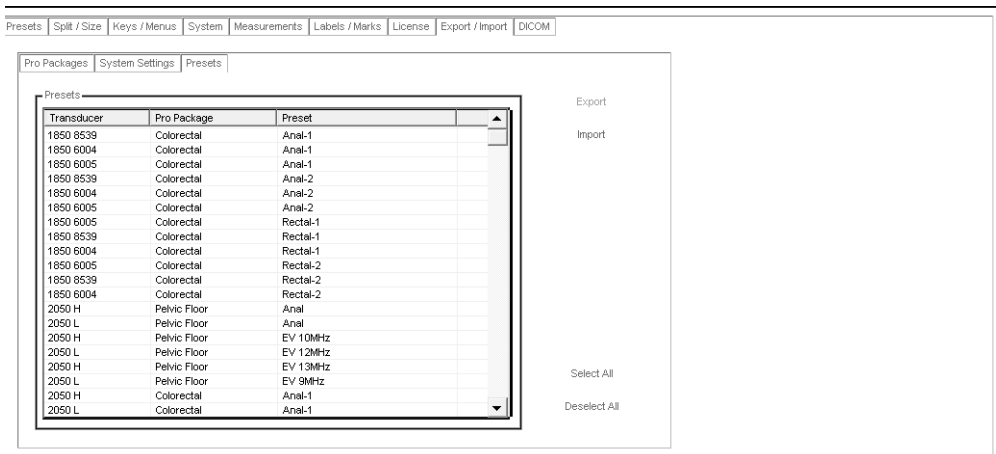

Figure C-27. The Preset Export/Import window.
- 1 In the **Preset Export/Import** window (Fig C-27), click **Import**.